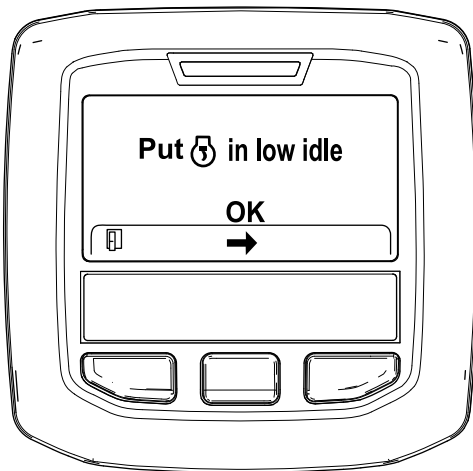

Figure 30
6. Move the throttle control to LOW IDLE and press the center button (Figure 30).